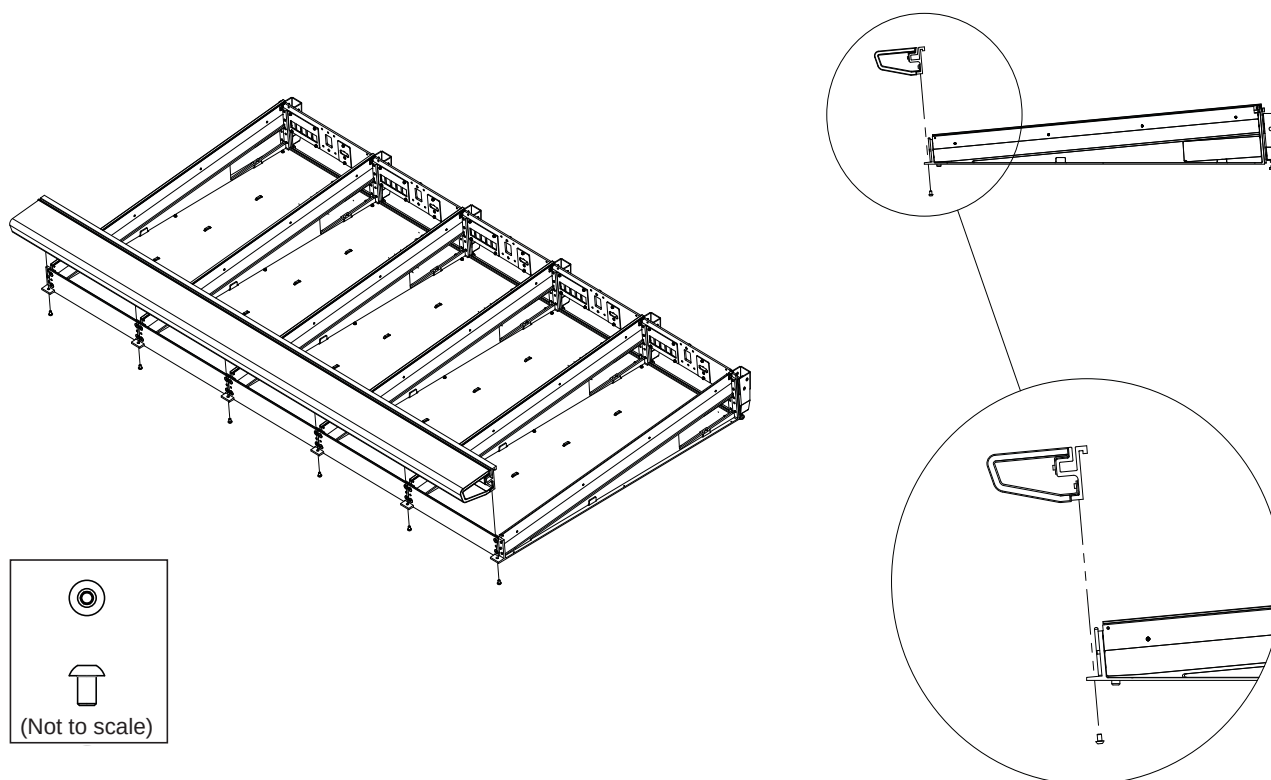

Figure 25. Attaching the Bolster
- 4 Make sure the Bolster is oriented correctly and carefully lower it onto the receiving edge along the top of the front edge of the frame, so the Bolster hangs in position as shown in Figure 25.